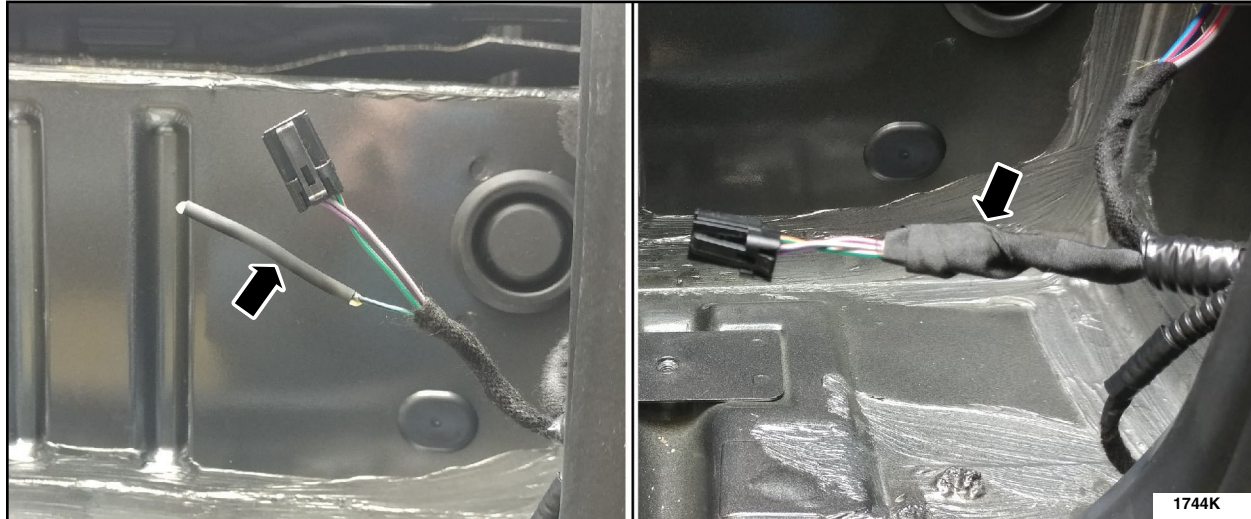

FIGURE 11
- Install heat shrink (component E) over the previously removed female terminal wire and tape the female terminal wire back on the main harness. See Figure 11.